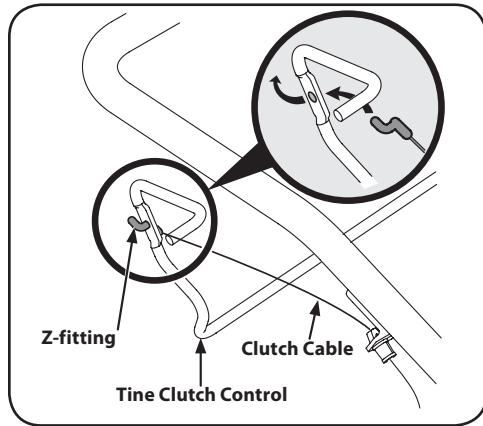

Figure 3-6
5. Insert the Z-fitting on the clutch cable into the hole on the tine clutch control. Hook the "Z" end into the opening from the inside to the outside as shown in Figure 3-6.